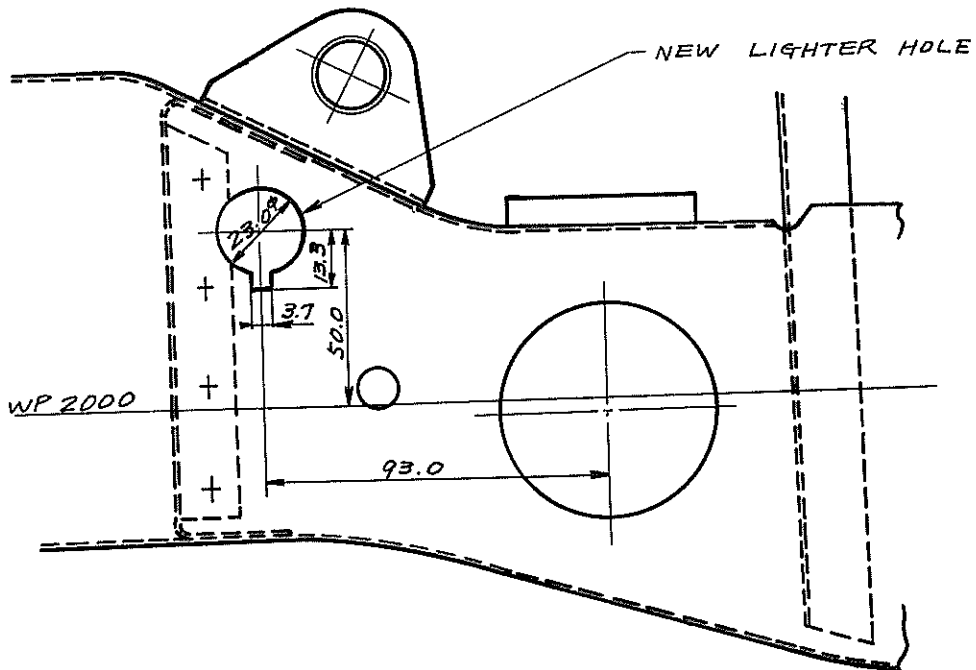

FIG. 2
- c. Make new installing hole as illustrated in figure 2.